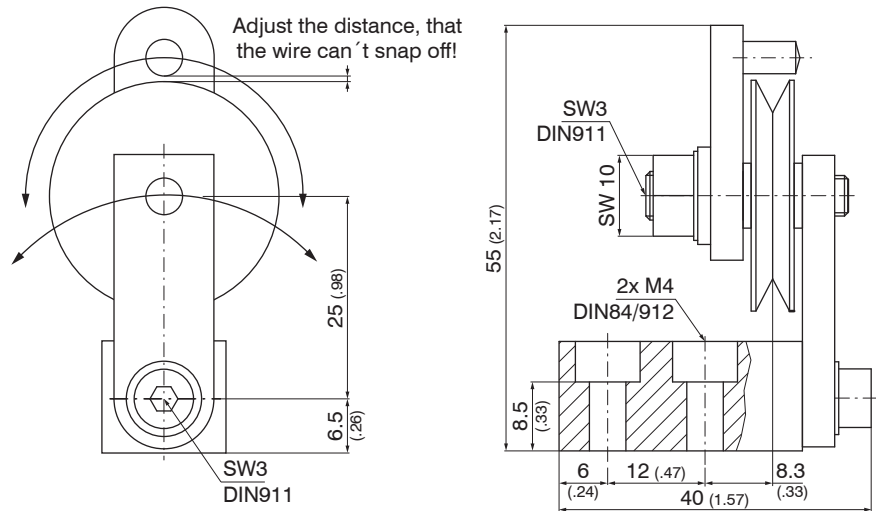

Fig. 13 Guide pulley TR1-WPS with mounting socket, dimensions in mm (inches), not to scale
- TR1-WPS Guide pulley adjustable with mounting socket, see Fig. 13